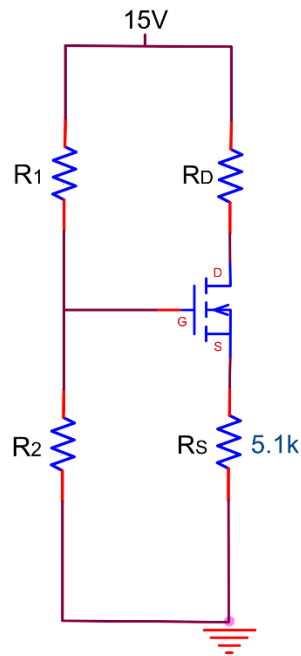

Figure 9.4
1. Calculate the resistors needed to bias the MOSFET in Figure 9.4 at a Q-point of $I_D = 0.5mA$ and $V_{DS} = 6.5V$. Assume that $V_{DD} = 15V$ and the MOSFET has parameters of $K_n = 0.06 \frac{A}{V^2}$ and $V_{TN} = 2.1V$. For this first design, $R_s = 5.1K\Omega$.
1. Construct the first design of the circuit shown in Figure 9.4, using the resistor values found in step 1 of the pre-lab. Apply a V_{DD} of 15V. Measure and record the Q-point, I_D and V_{DS} . Replace the 2N7000 with the second device. Measure and record the Q-point, I_D and V_{DS} .
- Construct the second design of the circuit shown in Figure 9.4, using the resistor values found in step 2 of the pre-lab. Apply a V_{DD} of 15V. Measure and record the Q-point, I_D and V_D . Measure and record the Q-point, I_D and V_D .